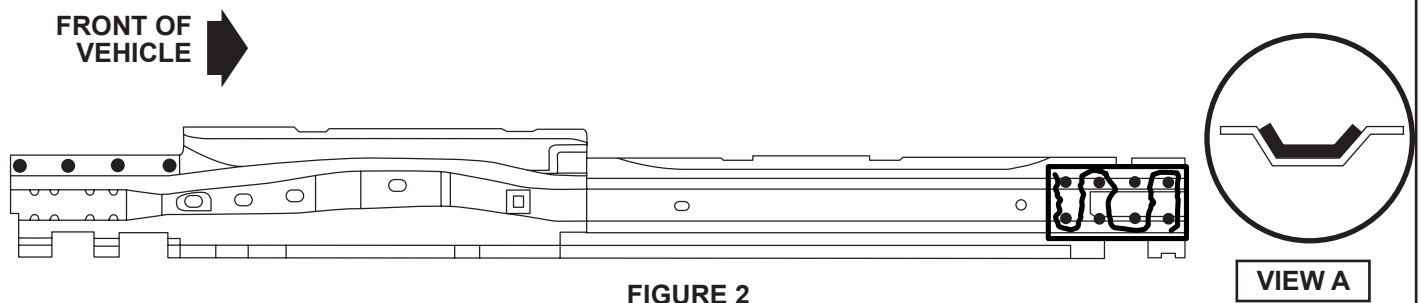

FIGURE 2
- Black dots represent the location of four (4) blind rivets (W702512-S900C).
- The outer rocker reinforcement may be sectioned according to repair plan technicians judgement. (Refer to Figures 2 and 3).